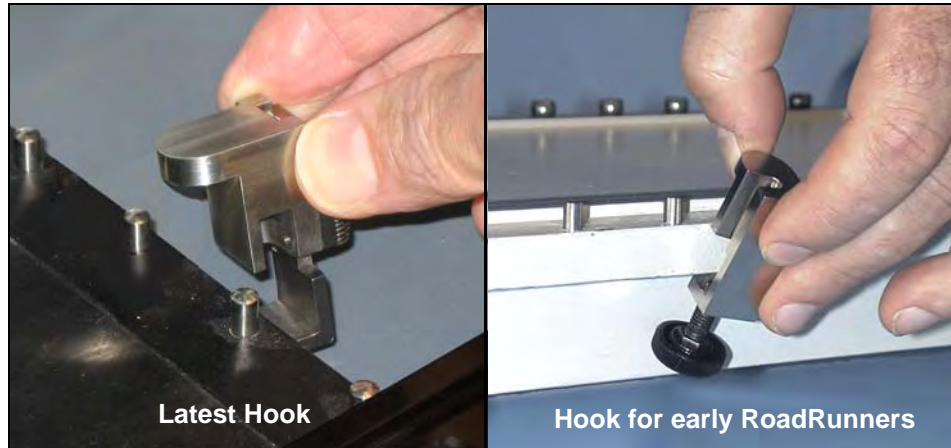

Figure 2-20—Positioning the RoadRunner Mounting Hook—ensure the correct hook is used.
1. Slide the proper mounting hook around a pin on the feeder table where the RoadRunner is to be mounted. Refer to Figures 2-20, 2-21, 2-22, and 2-23 for placement details.